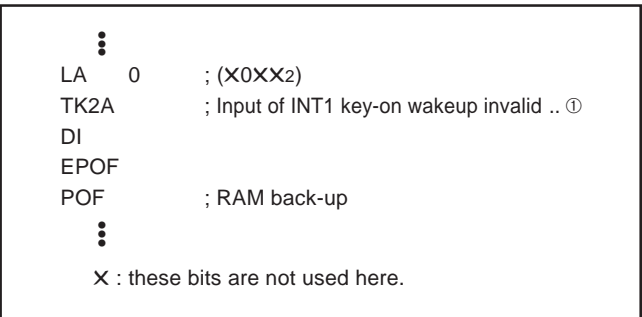

Fig. 62 External 1 interrupt program example-2
- When the input of INT1 pin is disabled (register I23 = "0"), set the key-on wakeup function to be invalid (register K22 = "0") before system enters to the RAM back-up mode. (refer to Figure 62①).